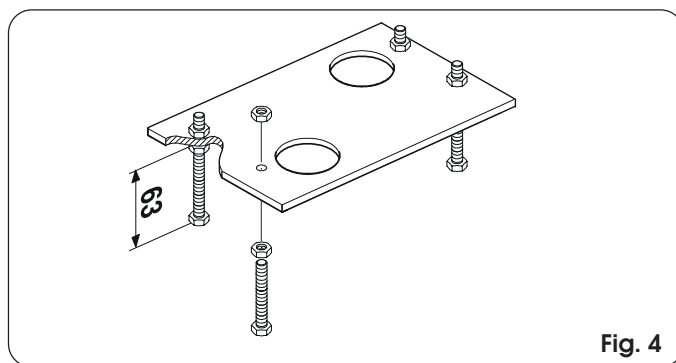

Fig. 4
- 1) Assemble the foundation plate as shown in figure 4.